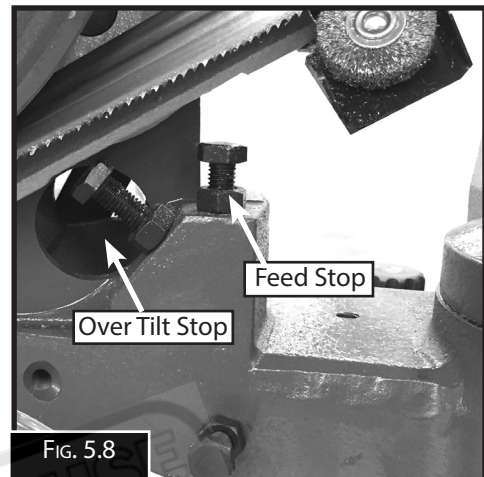

FIG. 5.8
2. Release the lock nut on the Feed Stop bolt.(Fig.5.8)